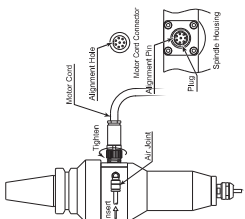

Fig. 20
- ④ Install the 6-4mm air hose on the HES Brushless Motor Spindle's Air Joint (Fig. 20).
- ⑤ Detach the plug cap for motor cord and install the motor cord to the HES Brushless Motor Spindle's plug. Please connect the motor cord to the motor cord connector clockwise to tighten (Fig. 20, 21).